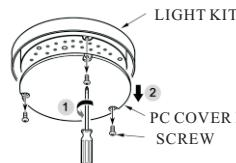

FIG.14
2. Remove the PC cover lens from LED light kit by removing the 3 screws. (see Fig.14)